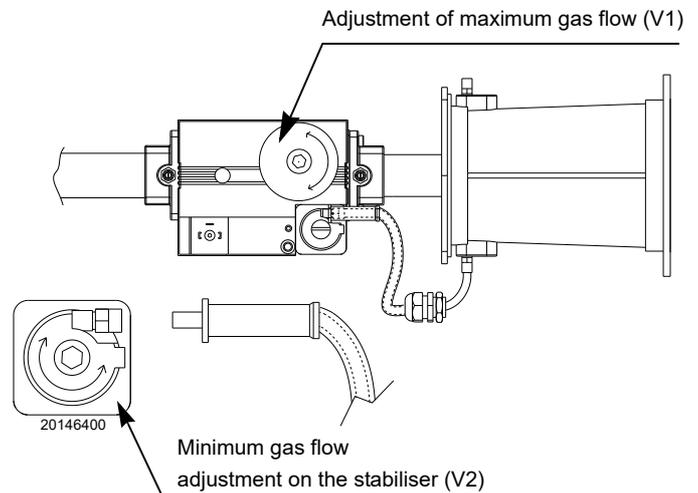

Fig. 25
- to increase the gas delivery and the CO₂: turn the V1 screw towards the "+" sign (Fig. 25);
- to reduce the gas delivery and the CO₂: turn the V1 screw towards the "-" sign (Fig. 25);.
- to increase the gas delivery and the CO₂: turn the V2 screw towards the "+" sign (Fig. 25);
- to reduce the gas delivery and the CO₂: turn the V2 screw towards the "-" sign (Fig. 25);.